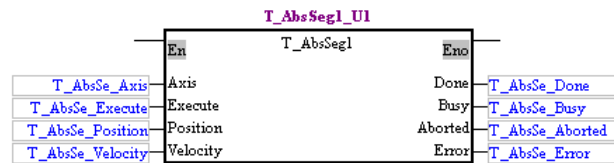

Figure 13-33 Automatically assigning default symbols to the pins of a function block
- (1) After **Generate by Default** is clicked, symbols will be assigned to the pins of the function block, and they will be declared in the local symbol table in the POU, as shown in figure 13-33. The rule of generating a symbol is “First seven letters in a function block definition_Pin name”. For example, the symbol automatically assigned to the Axis pin of the function block definition T_AbsSeg1 is “T_AbsSe_Axis”.